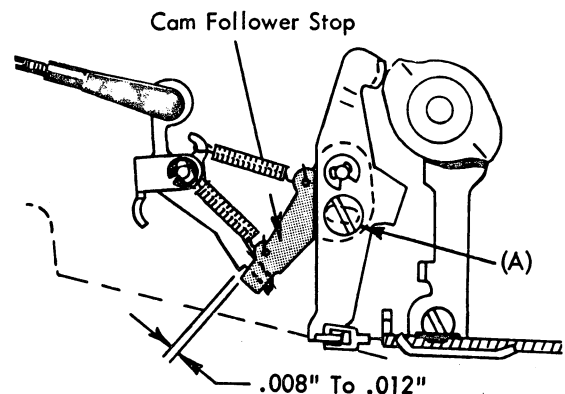

FIGURE 142.13 Cam Follower Adjusting Stop
11. **Low Velocity Cam Follower Stop** - With the cycle shift latched at rest, adjust the stop for .008" to .012" clearance with the low velocity latch (Fig. 142.13). Loosen the binding screw "A" to make this adjustment.